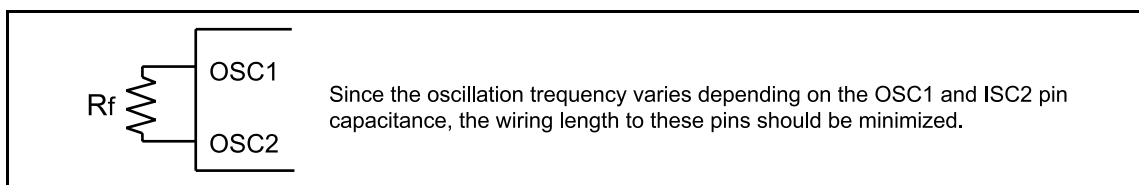

Figure 39 Internal Oscillation
9. Applies to the internal oscillator operations using external oscillation resistor Rf (figure 39).